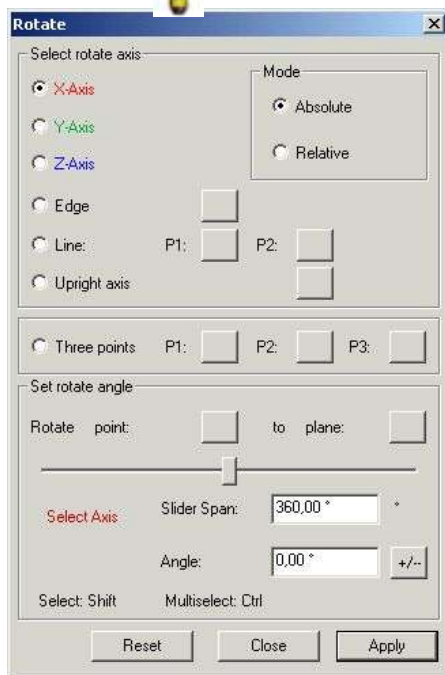

Figure 53: New Dialog for Rotating Objects
The **rotate angle** function is helpful if you want, for example, to set an object via a defined rotation angle at the source object in relation to a specific plane of the target object – this means that there must be specified values for the rotation axis and the rotation point for the body to be rotated, if you want the body to rest on the surface of another body. All rotation axes required are available for this purpose (*Please refer to the Figure 53*). You can choose between an absolute and a relative mode for each rotation axis (X, Y, and Z).
- 1) Click **Apply** after selecting the rotation angle and the target level (Please refer to the Figure 53). Press **Close** button to close the **Rotate** dialog. Thus, the marked levels will no longer be visible.